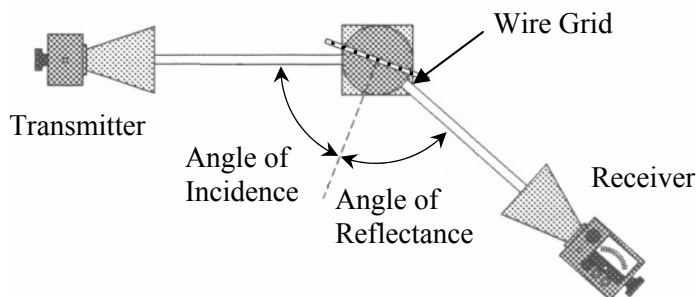

Fig. 7. Microwave receiver, transmitter and wire grid arrangement
3. Place the wire grid so that the center pin of the goniometer hinge fits into the recess in the bottom of the grid frame (see Fig. 7). Align the grid so that it is at 40° on the goniometer scale.
Question 1-1: What is the angle (labeled "Angle of Incidence" in Fig. 7) between the incident microwave beam and the normal to the plane formed by the wire grid array?